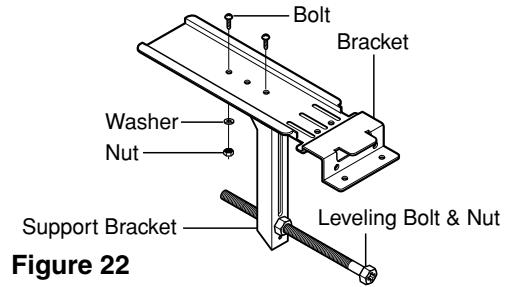

Figure 22
1. Loosely attach the Support Bracket to the bottom of Bracket using Bolts, Washers, and Nuts. Attach the Leveling bolt and nut. (See Figure 22)